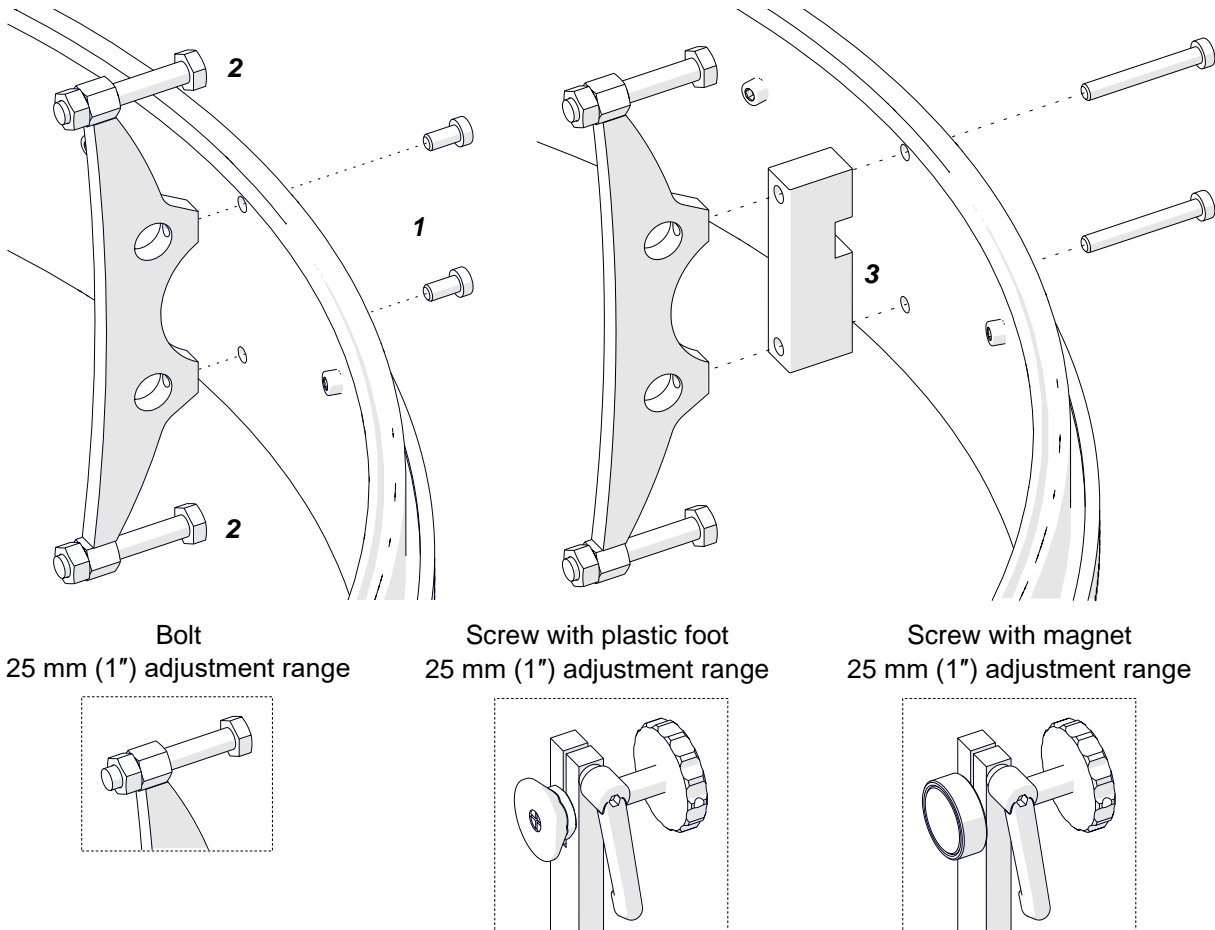

Fig. 3. Connecting the supports to the rails
Select the track that matches the outer diameter of the round workpiece. Use the 4 mm hex wrench to attach the supports to the rails (1, Fig. 3). Next, on all supports, retract the bolts (2, or screws) as much as possible. To clamp the track on the workpiece with a smaller diameter, you can use brackets (3). But this will decrease the stiffness of the clamping.